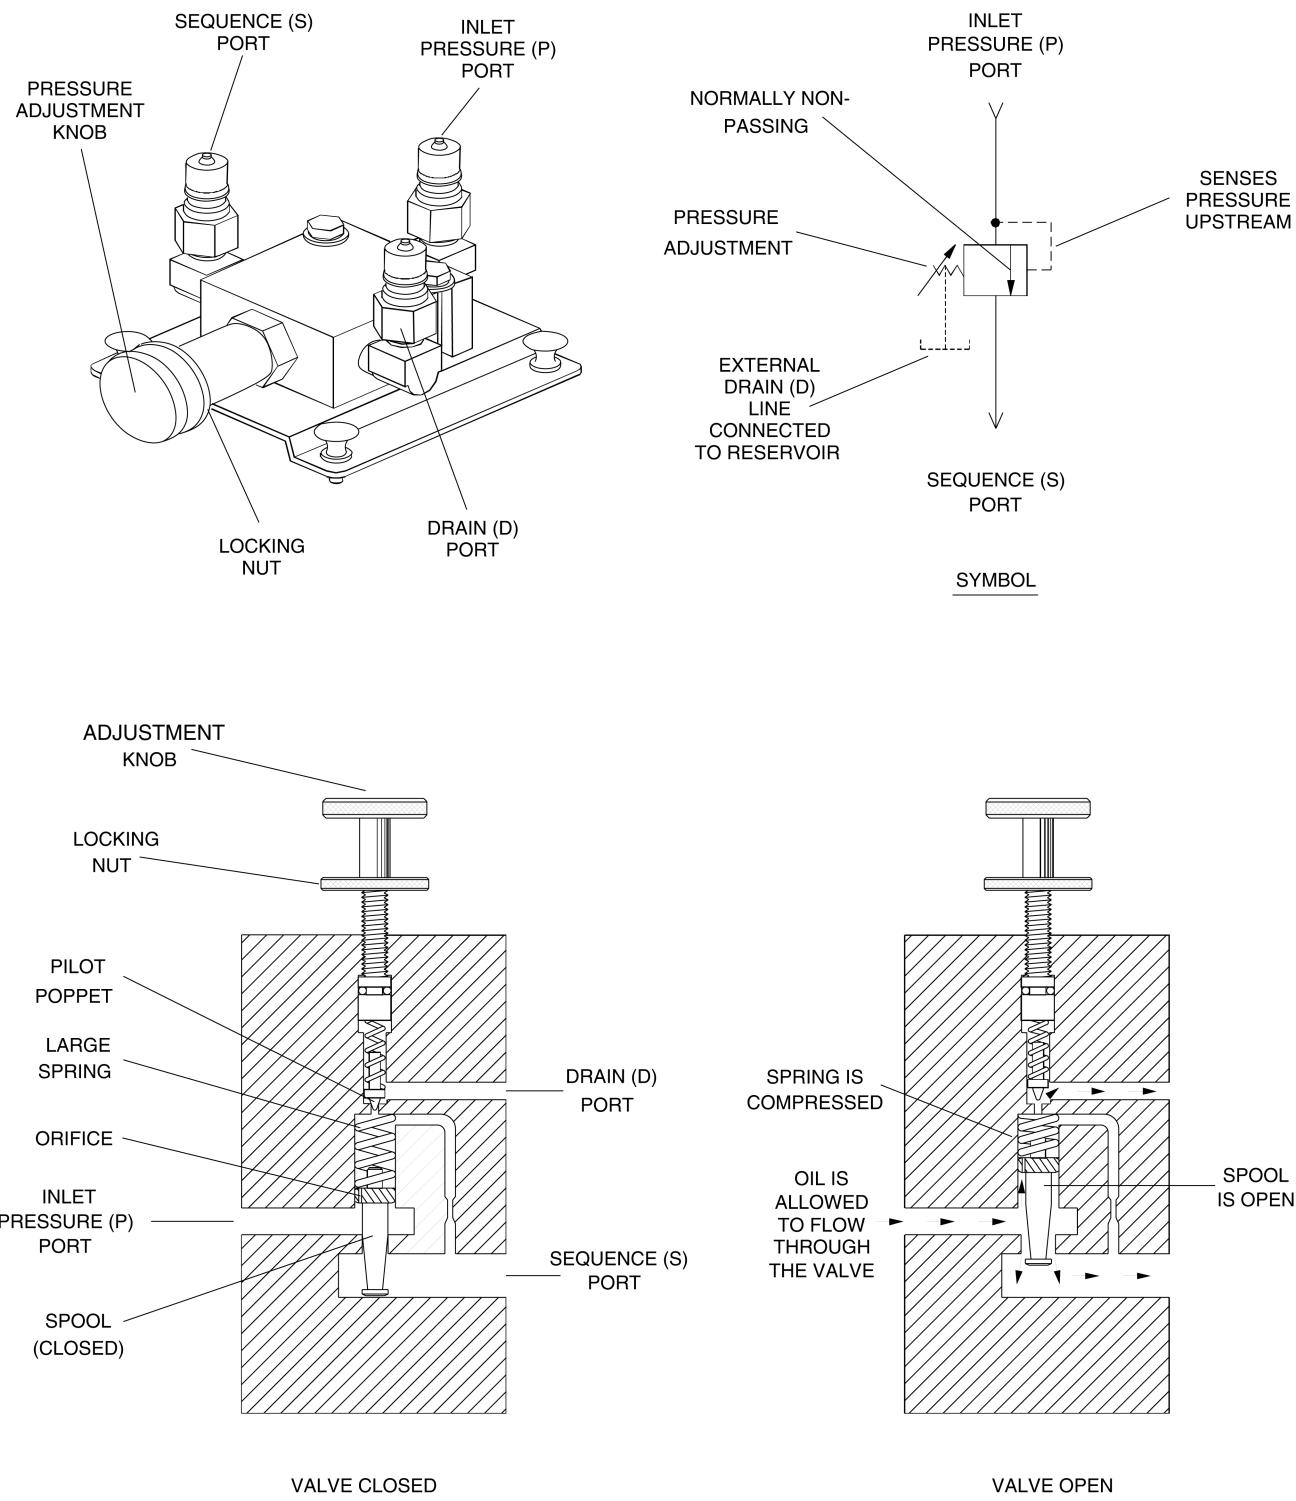

Figure 3-1. Pilot-operated sequence valve.
Figure 3-1 shows the Sequence Valve of the Hydraulics Trainer. The valve body has three ports: an inlet **pressure (P) port**, a **sequence (S) port**, and a **drain (D) port** which is to be connected to the reservoir. Similar to the Relief Valve, the Sequence Valve is normally closed and it senses the pressure upstream. Unlike the Relief Valve, however, the Sequence Valve is externally drained to the reservoir through its drain port.
Note: If required, refer to Figure 3-1 to locate ports P, S, and D on the Sequence Valve.